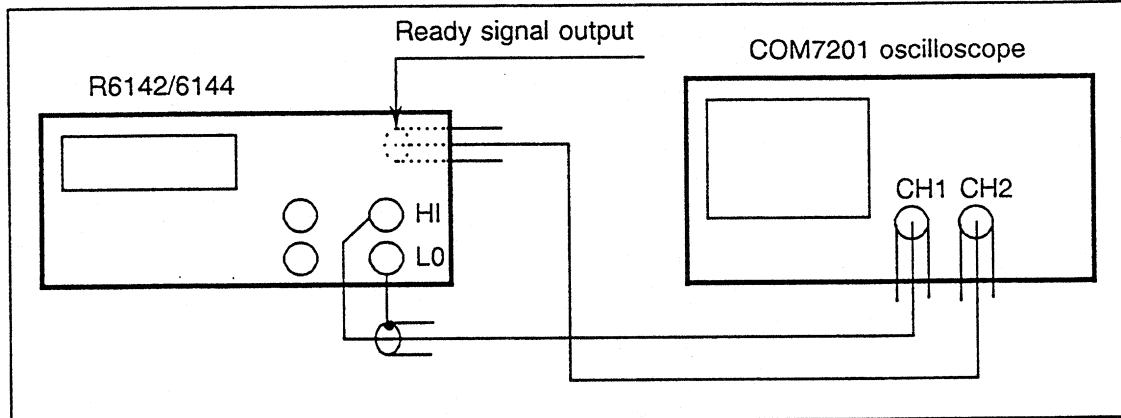

Figure 4-11 Cable Connection for Ready Signal Test
① Connect the R6142/6144 to an oscilloscope as shown in Figure 4-11. Use CH1 of the oscilloscope to observe the output waveforms, and use CH2 of it to observe the Ready signal waveforms.